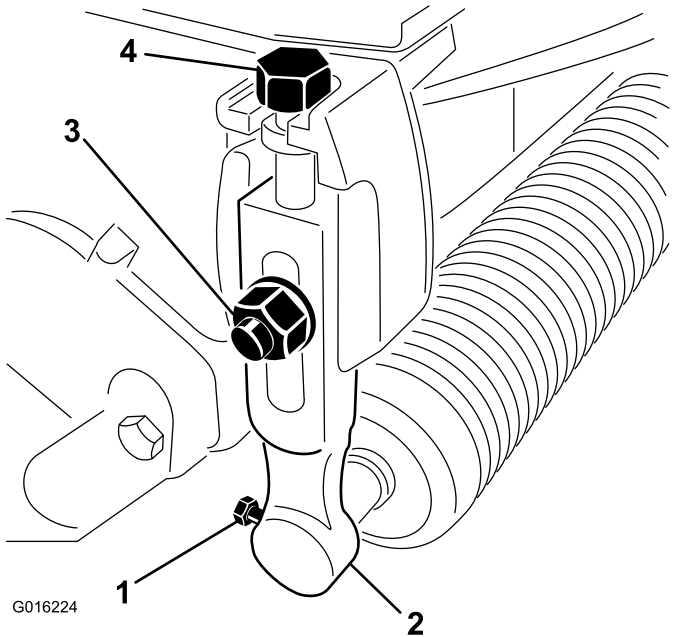

Figure 1
2. Loosen the screws securing each end of the front roller to the height-of-cut arms (Figure 1).
3. Remove the plow bolts, washers, and locknuts securing the height-of-cut arms to each end of cutting unit (Figure 1). Remove the height-of-cut arms and roller assembly.
4. Remove the height-of-cut adjusting screws from the height-of-cut arms (Figure 1).